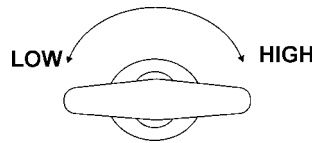

Figure 39. Engine Speed Throttle
7. Make sure the engine speed lever is set on low (Figure 39).